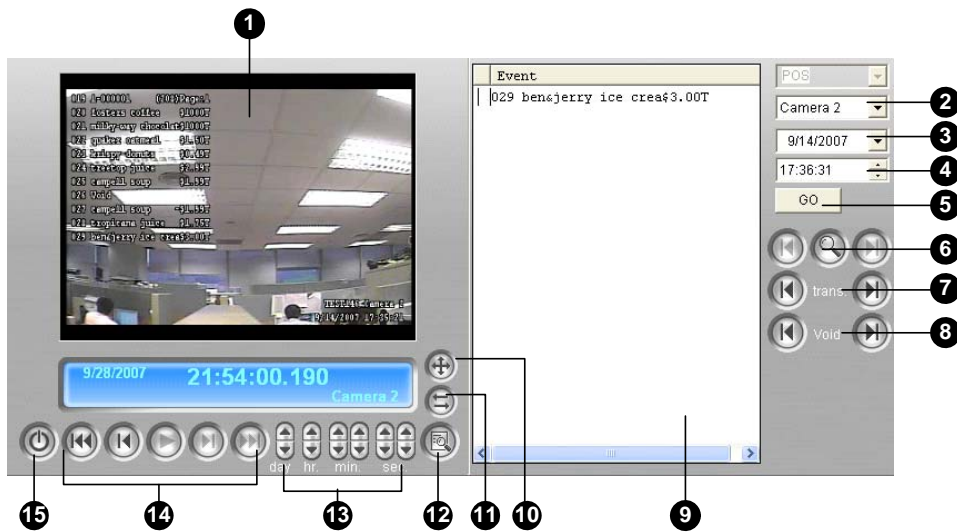

Figure 4-45 Quick Search
Click the **Event Query** button (No. 6, Figure 4-45) on the Quick Search window, and the following dialog box will appear. Use this function to find POS events by a specific item, transaction, or date.
1. Click the **Expand/Shrink Dialog** button (No.11, Figure 4-45), and select **Advanced Search**. The Advanced Search panel appears.